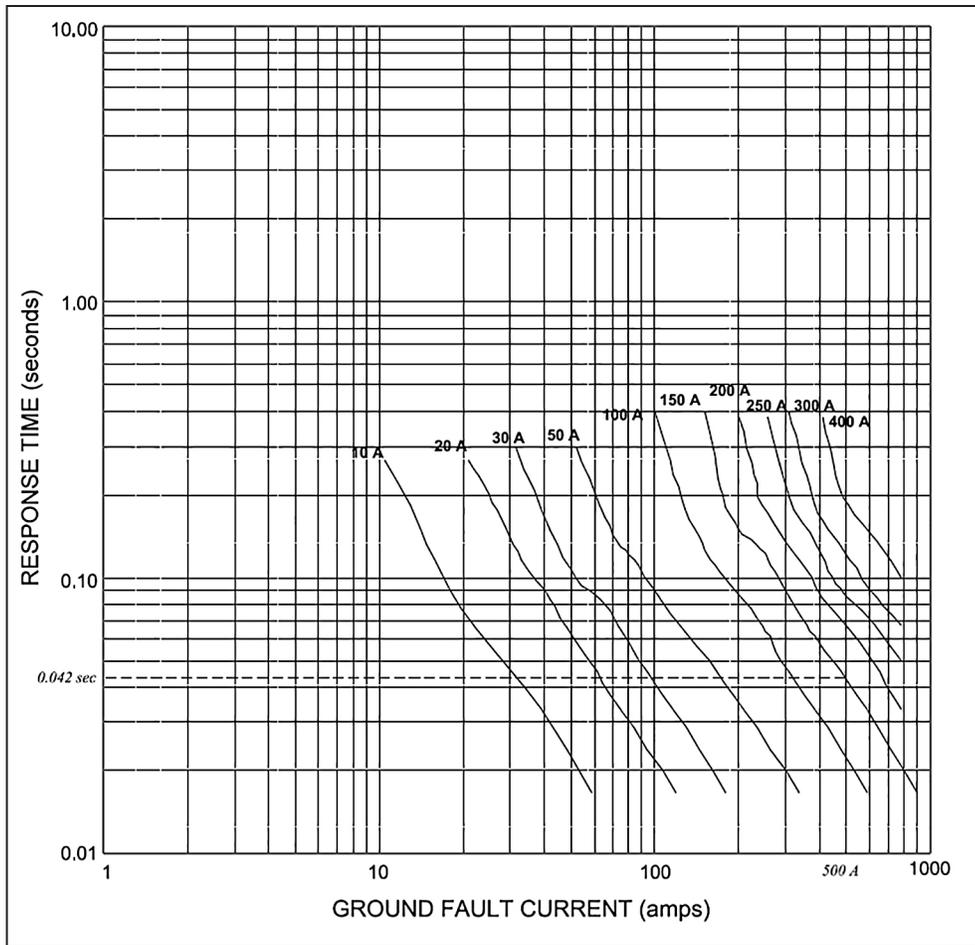

Figure 10. The Time-Current Characteristic curve for ground fault detection.
2. Find the time-current curve for the chosen **Ground Fault Detection Current Level** setpoint in Figure 10 on page 21.
3. Compare the time-current curves shown in Figure 10 on page 21 to the time-current curve for the protective device. The curve for the protective device should include the mechanical operating time. The switch control response time should be less than 75% of the protective device response time.
Example: When the **Ground Fault Detection Current Level** setpoint is 150 amps, a 500-amp ground current must be present for approximately 42 milliseconds before the switch control registers a fault. See Figure 10 on page 21.